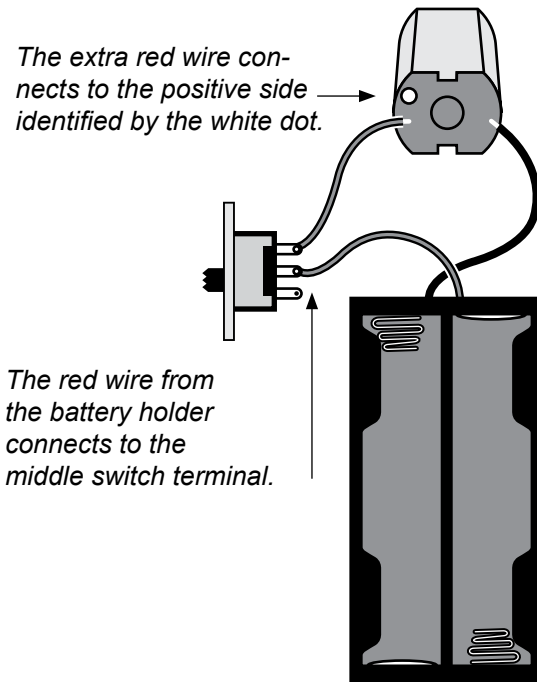

Figure 4
- 3) Locate the slide switch. Take the red wire attached to the battery holder and solder it to the middle terminal on the back of the slide switch (Figure 4).